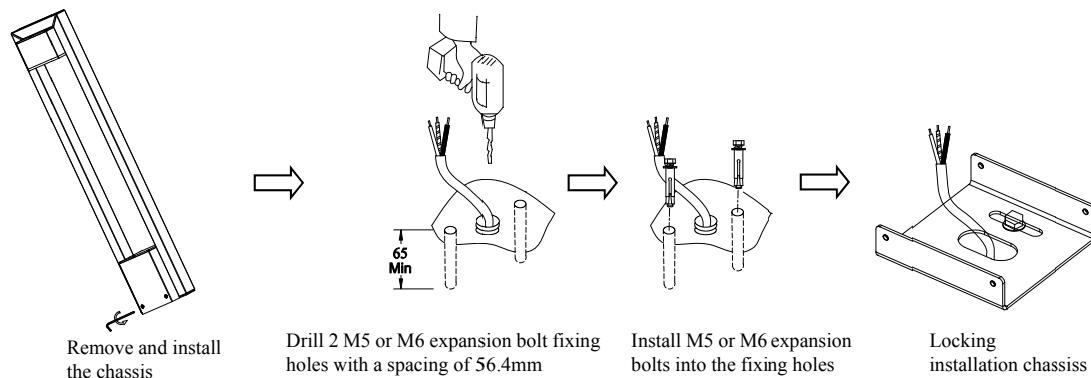

Figure 2
2. Open the packaging, take out the lamp, use an Allen wrench (3.0mm) to loosen the fastening screws on the side of the base, take out the installation chassis, and drill the holes required for the expansion bolts on the installation surface as shown in Figure 2. The depth of the holes should be greater than the length of the expansion bolts. Install the expansion bolts into the corresponding installation holes and lock the installation chassis;